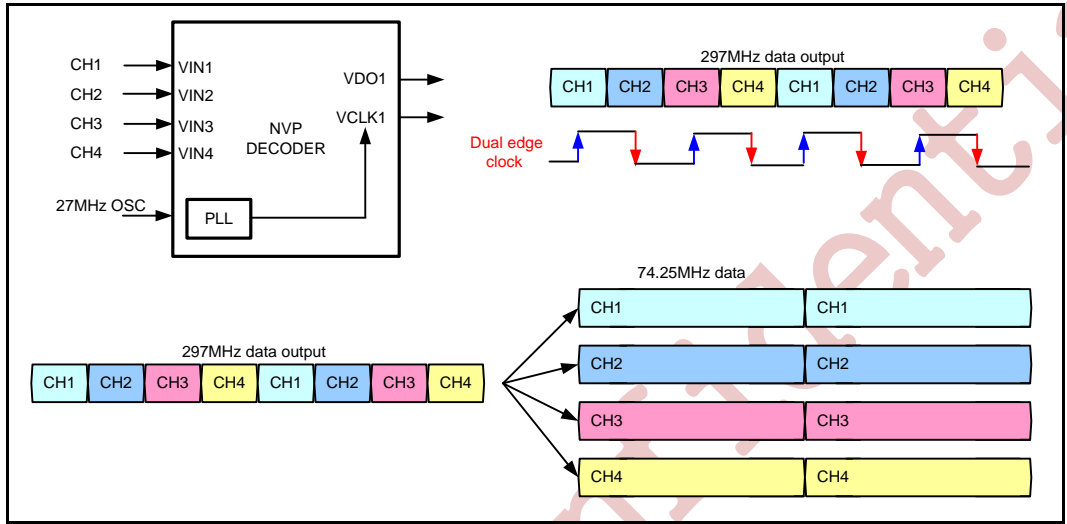

Figure 2.16 NVP6134C generate 297MHz(1Port 4-CH) data output
4. And then NVP6134C generate 297MHz(1Port 4CH) data output (Figure 2.16)